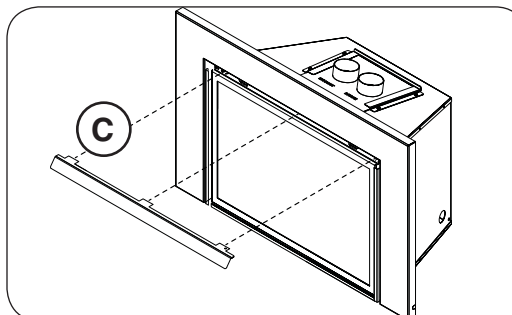

Fig. 38-2 Install eyebrow
3. Install the eyebrow as shown in Fig. 38-2, "C". The eyebrow has 3 tabs that install into the 3 hems located underneath the top side of the surround.